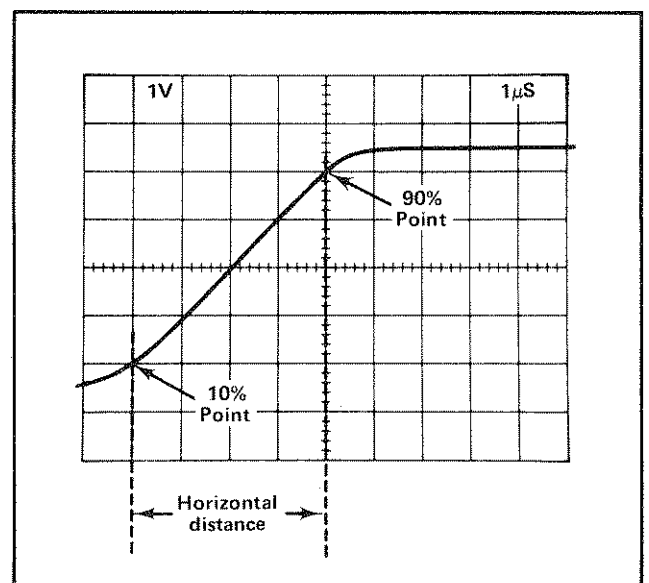

Fig. 1-14. Measuring risetime.
8. Adjust the horizontal POSITION control to move the 10% point of the waveform to the second vertical line of the graticule. For example, with a five-division display as shown in Fig. 1-14, the 10% point is 0.5 division up from the start of the rising portion.
Example. Assume that the horizontal distance between the 10% and 90% points is four divisions (see Fig. 1-14) and the TIME/DIV OR DLY TIME switch is set to 1 μ s. Applying the time duration formula to risetime: